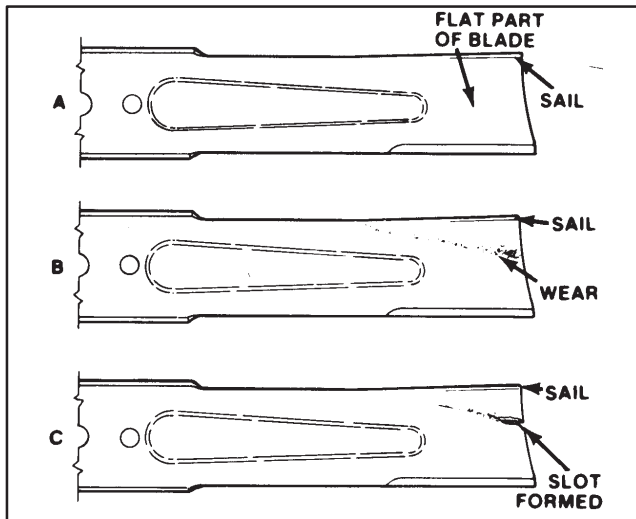

Figure 29
INSPECTING AND SHARPENING BLADE (Fig. 29 – 30)
4. Examine cutting ends of the blade carefully, especially where the flat and curved parts of the blade meet (Fig. 29–A). Since sand and abrasive material can wear away the metal that connects the flat and curved parts of the blade, check the blade before using the machine. If wear is noticed (Fig. 29–B), replace the blade: refer to Removing Cutter Blade.
If blade is allowed to wear, a slot will form between the sail and flat part of the blade (Fig. 29–C). Eventually a piece of the blade may break off and be thrown from under the housing, possibly resulting in serious injury to yourself or bystander.